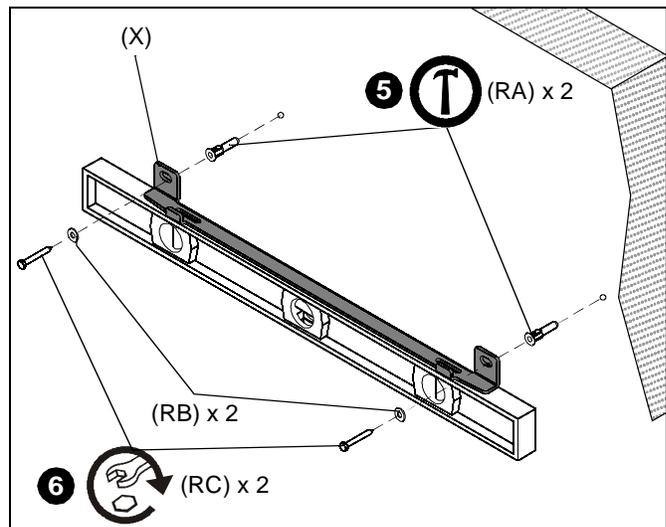

Figure 12
5. Install two anchors (RA) into pilot holes. Tap with hammer until flush with concrete surface. (See Figure 12)
6. Attach mounting bracket (X) to wall with two 5/16 x 2-1/2" lag screws (RC) and two 5/16" flat washers (RB). (See Figure 12)